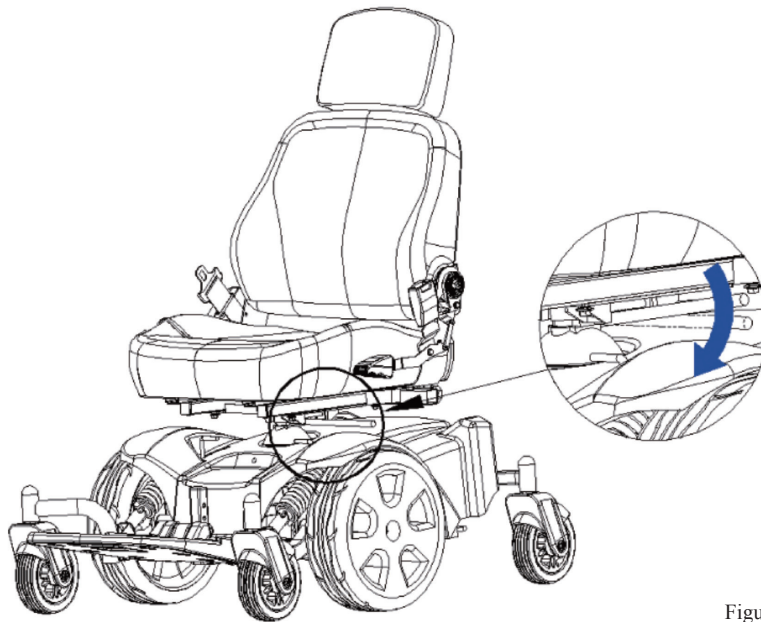

Figure 13. Install the seat
5. Unhitch the seat lever. (See figure 13)